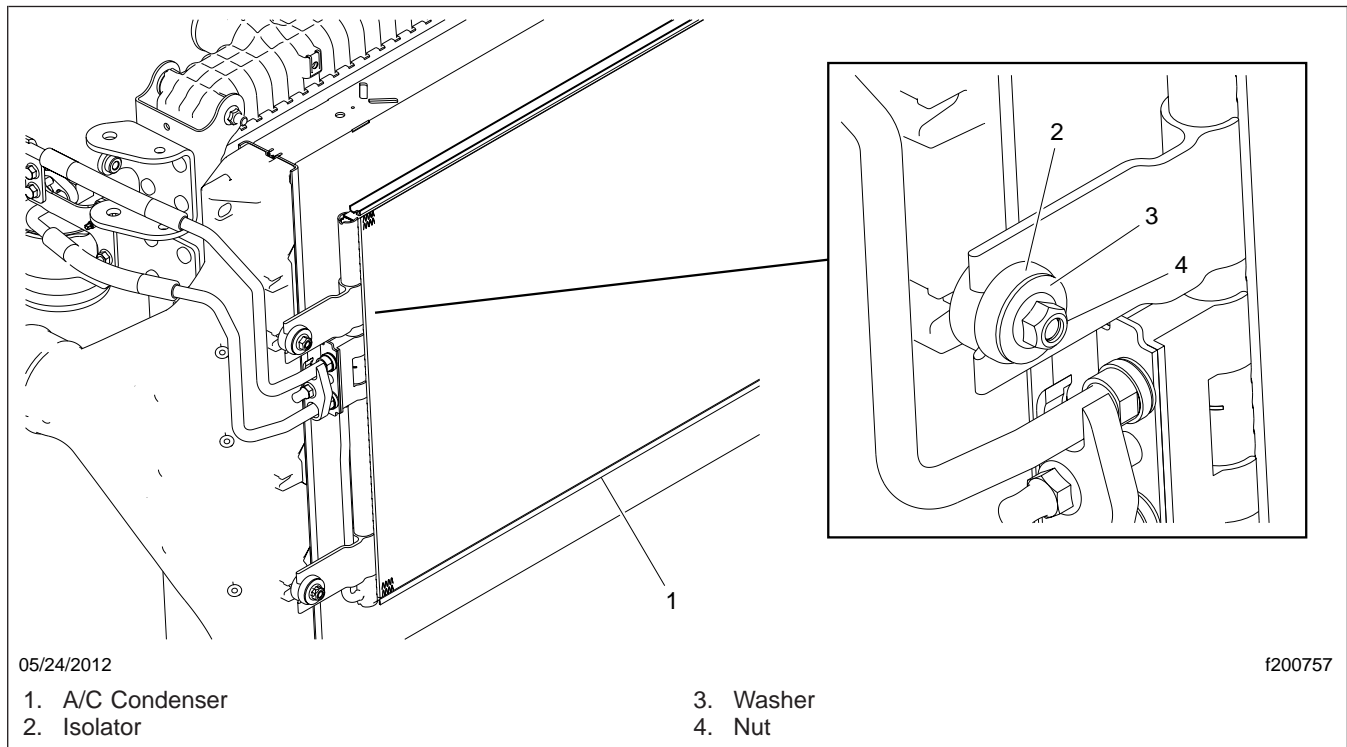

Fig. 4, A/C Condenser Installation
- 13.3 Unbolt the A/C condenser from the CAC. See **Fig. 4**.
- 37.1 Move the condenser into position and secure it temporarily. See Fig. 4.